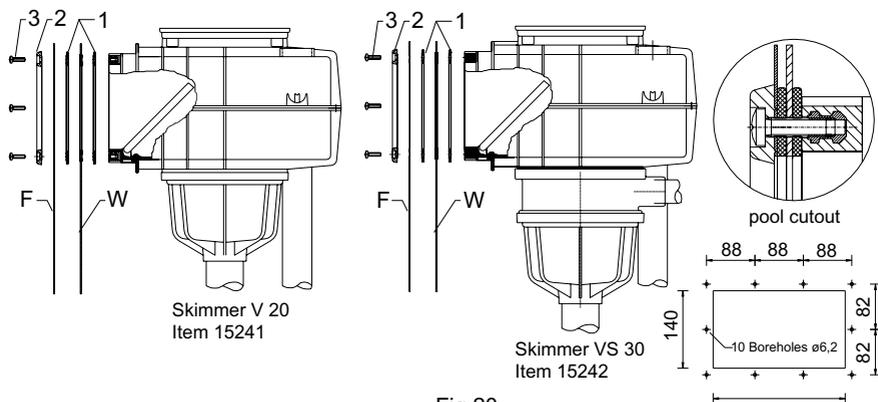

Fig 20
- I. The pool wall lead-in (4) and the gasket (3) are inserted into the prepared cutout from the inside of the pool.
- II. and is bolted down from the outside of the pool using the supplied bolts (1) and washers (2).
3.5 3.5 Installing V20 and VS30 skimmers in above-ground pools with liners (Fig 20)